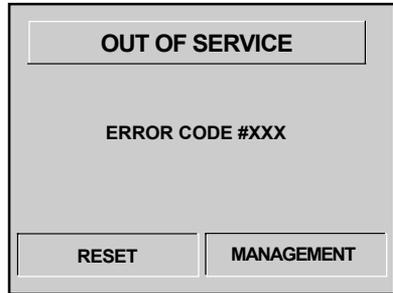

Fig. 7-2. This screen appears after recycling the terminal in an 'Out of Service' condition.
1. Recycle the ATM (see next page for instructions on how to reset the ATM). The ATM will re-initialize and after a short interval the 'Out of Service' menu will be displayed, as shown in Figure 7-2.